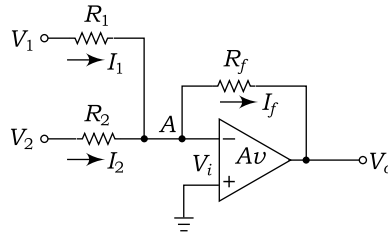

Fig. 7.99
6. When $R_1 = R_2 = R_f = R$, the output voltage of an OP-AMP circuit as shown in Fig. 7.99 is